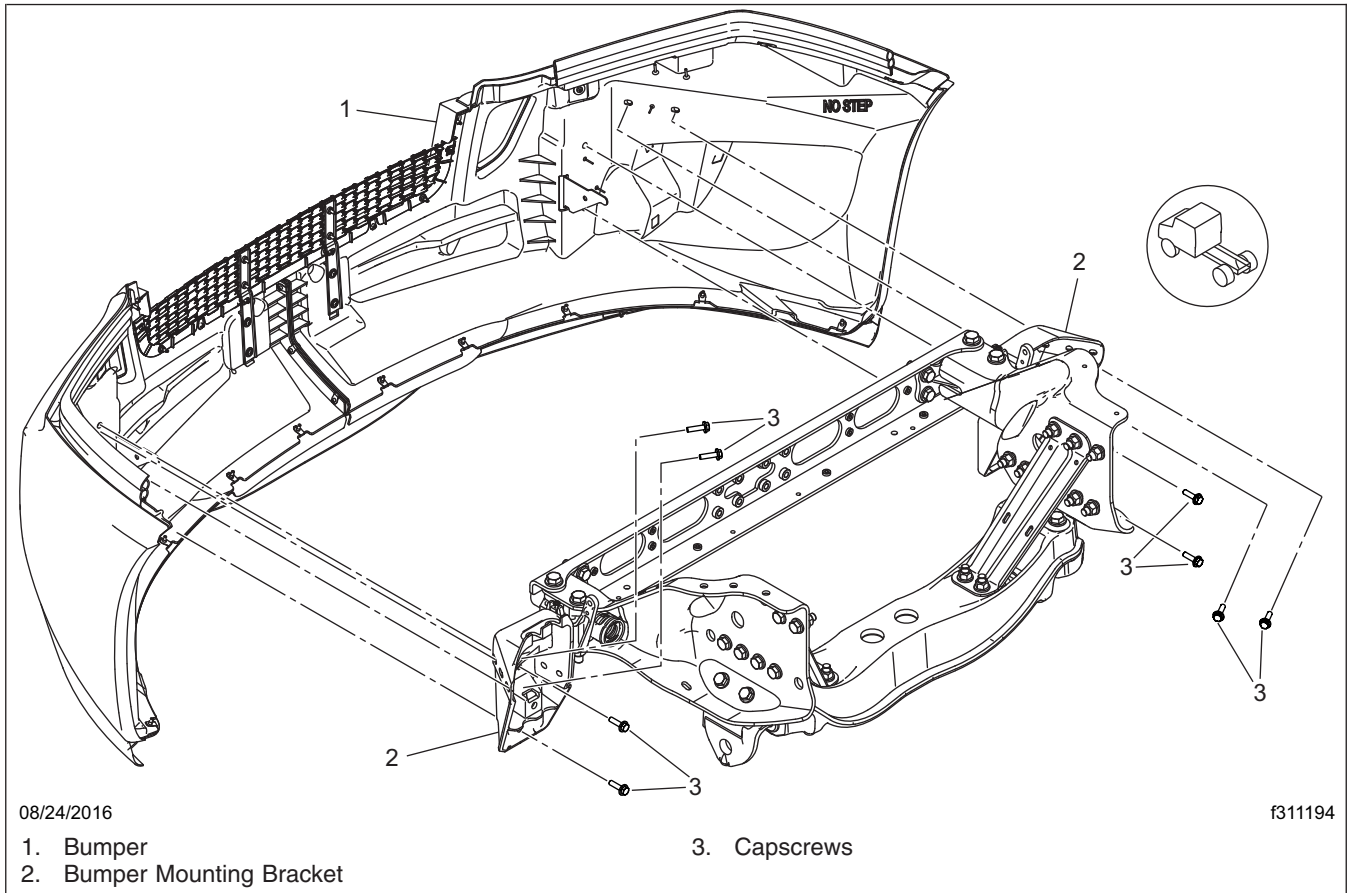

Fig. 1, Aerodynamic Bumper
4. Remove the four fasteners on each side of the bumper that attach the bumper to the bumper mounting brackets. See Fig. 1.